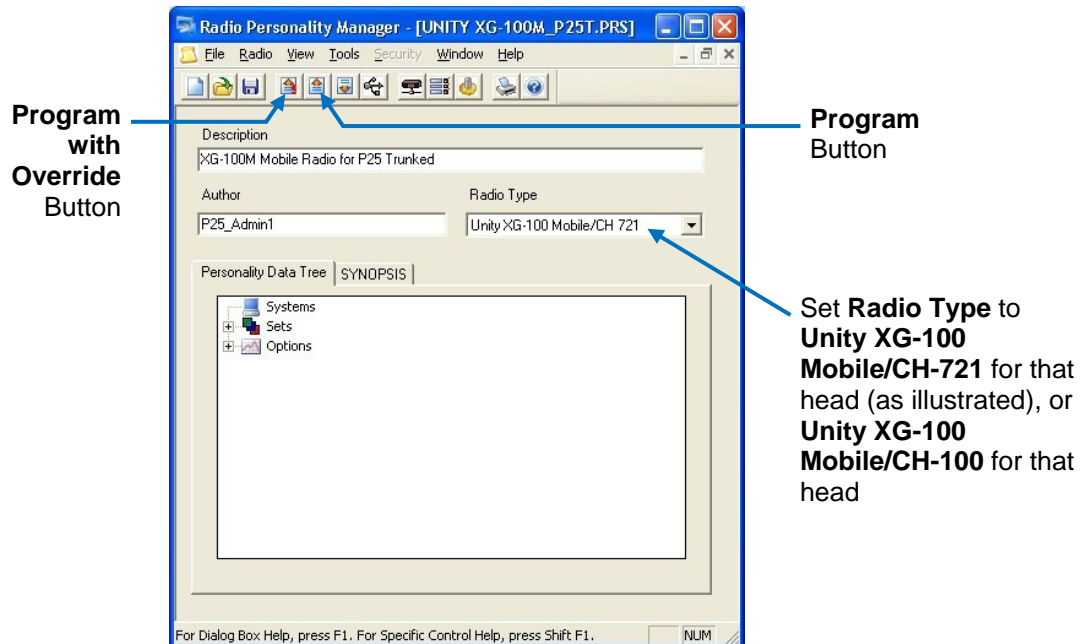

Figure 10-2: RPM's Program and Program with Override Buttons (Example Main Dialog Box)
5. As illustrated in Figure 10-2, in RPM's main dialog box, verify the Radio Type is set to Unity XG-100 Mobile/CH-100 if the CH-100 head is present or to Unity XG-100 Mobile/CH-721 if the CH-721 head is present.